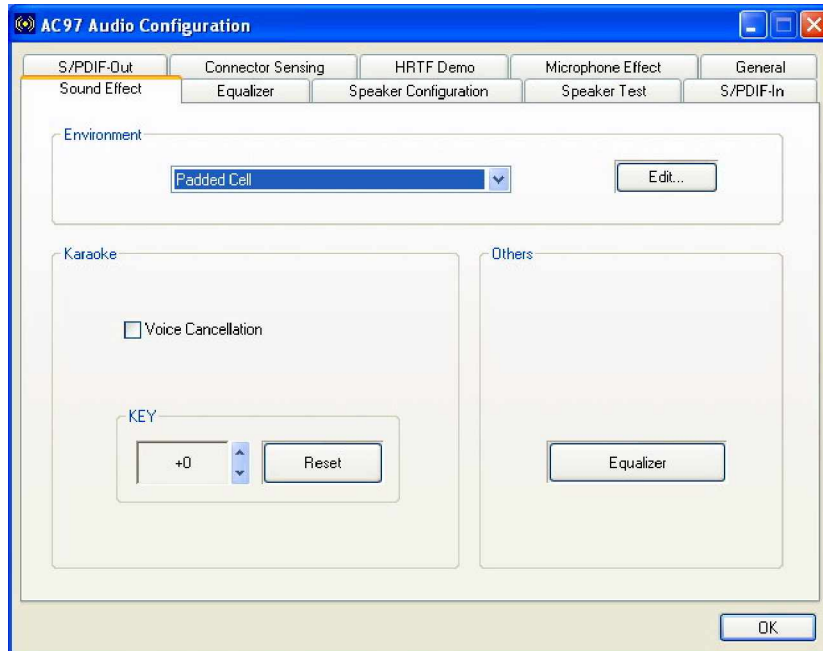

Figure D-4: Sound Effects Manager (ALC655)
Step 3: The sound effect manager appears. (See **Figure D-4**)
The Sound Effect Manager shown in **Figure D-4** is for the RealTek ALC655 audio CODEC. Different CODECs may have different sound manager appearances.
The **Sound Effects Manager** enables configuration of the items listed below. To configure these items click the corresponding menu tab in the **Sound Effects Manager** in **Figure D-4**.